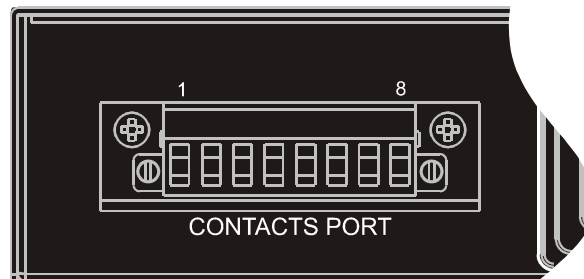

Fig. 9: Focus on contacts port.
The contacts port is formed using eight (8) pins numbered from left to right (see fig. 9), which can be connected to an external monitoring system (such as a BMS) in order to monitor the operational status of the ATS. The external equipment must respect the voltage and current characteristics of contacts port.